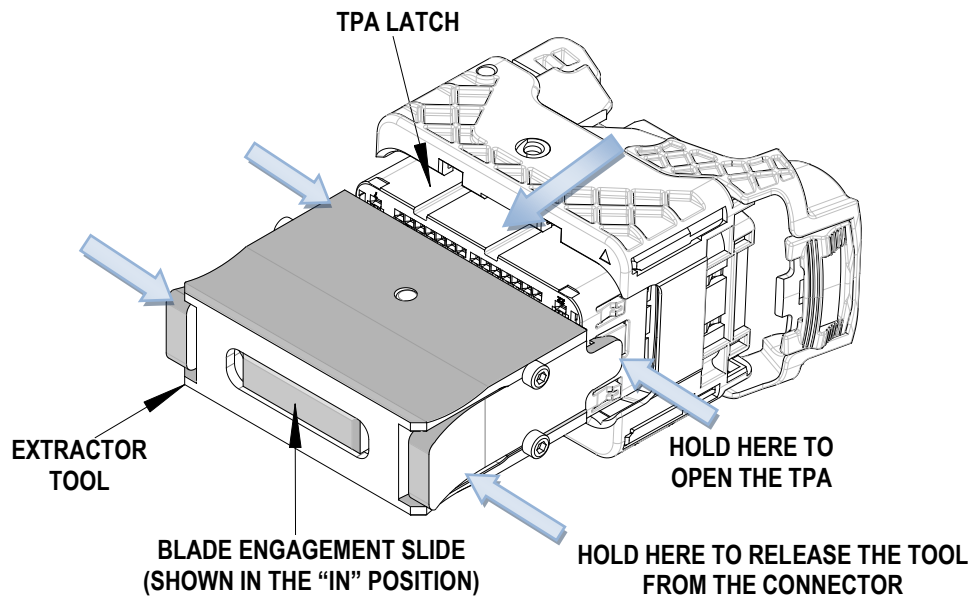

Figure 2
3. The tool is now secure on the in the TPA. See Figure 2.